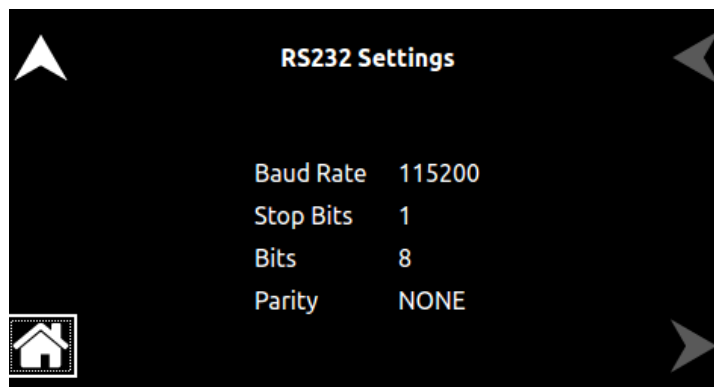

Figure 6-5. RS232 Screen (Settings)
- d. Using a computer serial communications program such as HyperTerminal™, set for the same baud as SGX power supply (see Figure 6-5) no parity, 8 data bits, 1 stop bit. Use SCPI command **SYST:NET:IP?** <Enter> to get the IP address.
- c. Using a computer serial communications program such as HyperTerminal™, set for the same baud as SGX power supply (see Figure 6-5) no parity, 8 data bits, 1 stop bit. Use SCPI command **SYST:NET:IP?** <Enter> to get the IP address.
- Connect using a computer serial communications program such as HyperTerminal™, set for the same baud as SGX power supply (see Figure 6-5) no parity, 8 data bits, 1 stop bit. Refer section 4.2.2 for more details.